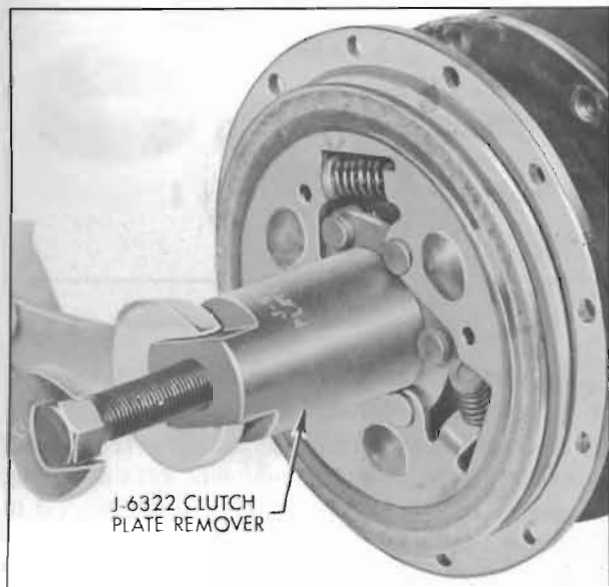

Figure 11-61—Removing Clutch Plates
7. The clutch plate assembly can now be removed by screwing on the special Clutch Plate Puller nut into which the Clutch Plate Puller screw has been assembled. (Tool J-6322). The cone point of this screw will center in the end of the compressor shaft. Rotate the screw with a wrench until the clutch plate assembly is pulled off of the shaft and woodruff key. See figure 11-61.